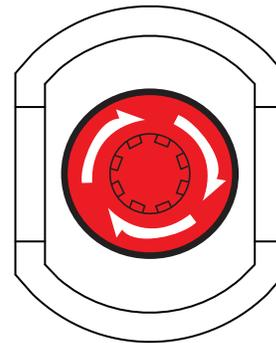

Figure 40. Emergency Stop Switch
1. To stop the engine in the event of an emergency, press the **Emergency Stop switch** (Figure 40).